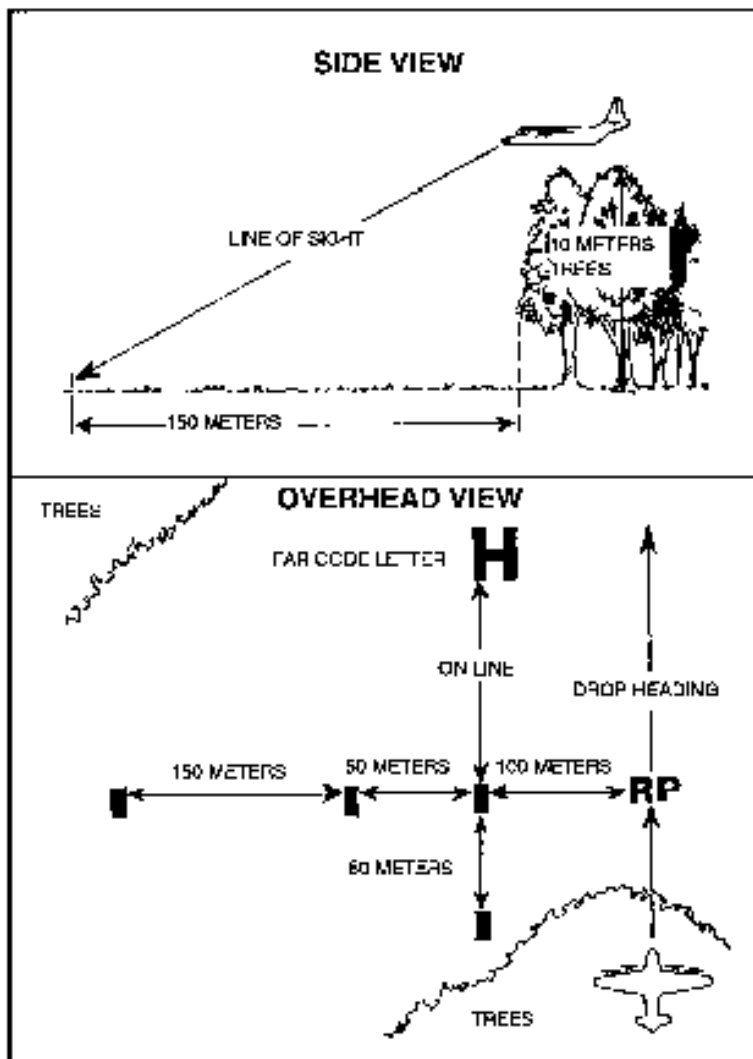

Figure 6-5. The 15:1 mask clearance ratio.
c. The DZST places the markings where obstacles will not mask the pilot's line of sight. As a guide, he uses a mask clearance ratio of 1 to 15 units of horizontal clearance (Figure 6-5).